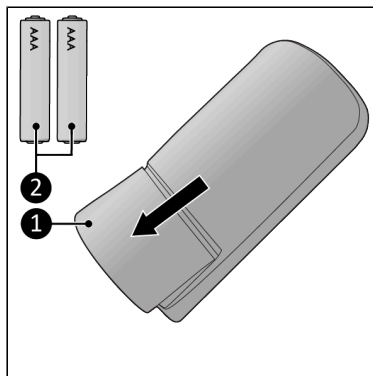

Figure 38.
1. Remove the battery cover (Figure 38, pos. 1).
2. Insert two batteries (AAA 1.5 V) (Figure 38, pos. 2) as indicated in the battery compartment. Make sure to insert the batteries correctly.